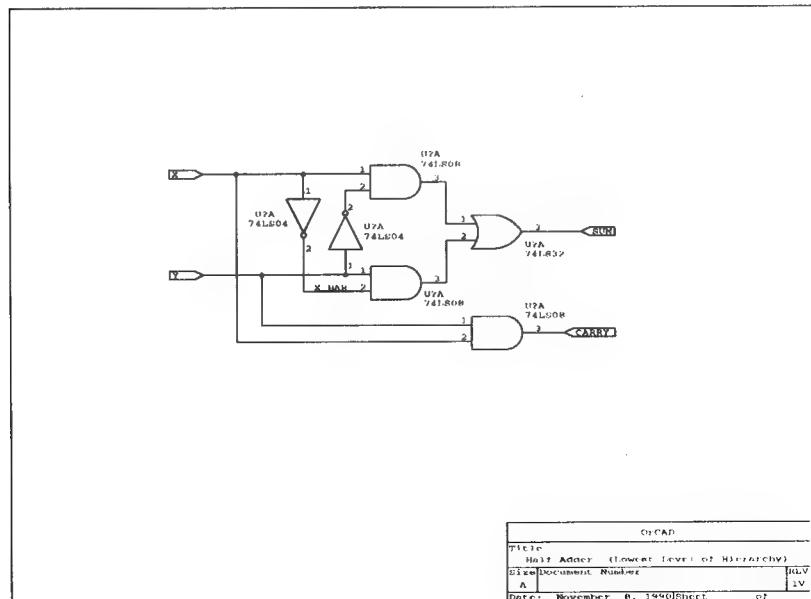

Figure 8-10. Half-adder worksheet.
2. Place the pointer inside one of the sheet symbols and select **Enter**. Draft displays the worksheet referred to by the selected sheet symbol. Figure 8-10 shows the half-adder circuit.